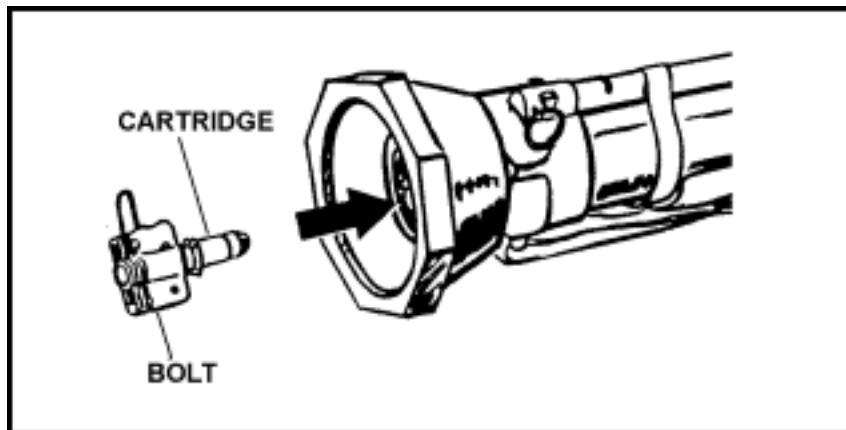
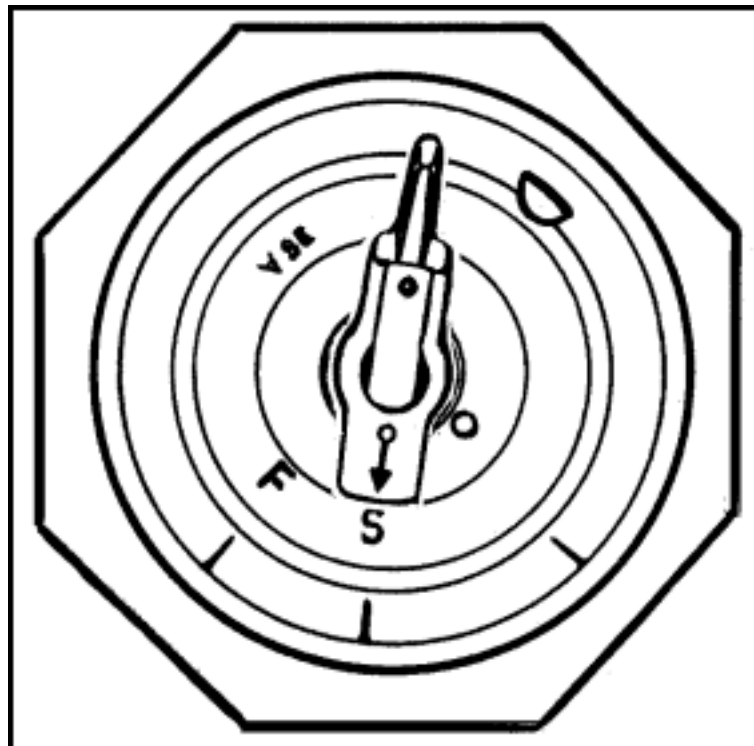
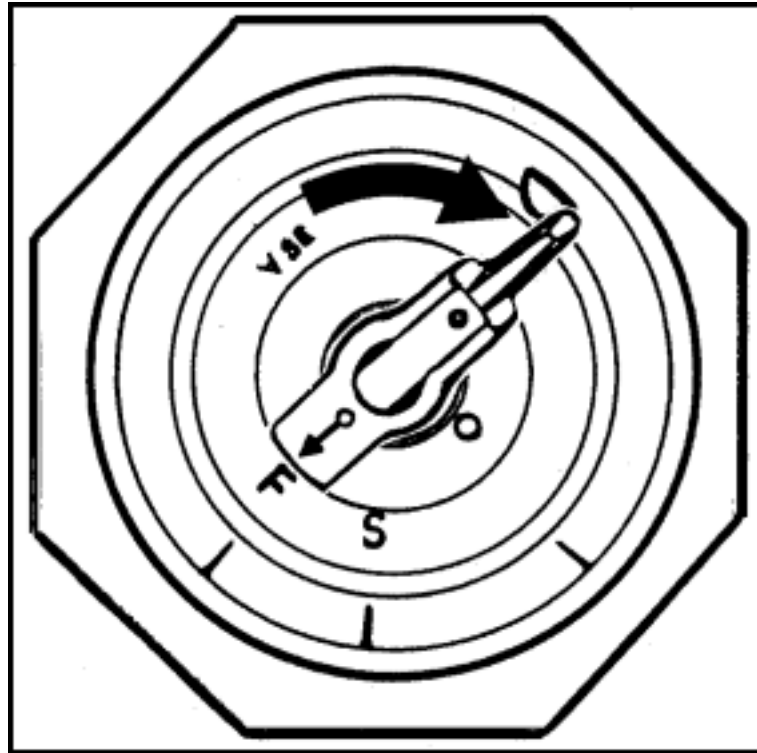

Figure B-9. Inserting bolt with cartridge into the breech of the M287 tracer trainer.
Figure B-10. Ensuring tracer trainer bolt is in the safe position.
Figure B-11. Arming the tracer trainer.
(1) The firer performs the function check and places the M287 tracer trainer on his shoulder.
(2) The trainer looks through the barrel from the rear to verify that it contains no obstructions. He inspects the cartridge primer to ensure it is not dented, inserts the bolt into the breech (Figure B-9), and presses in and turns the bolt clockwise to the "S" to place it in the safe position (Figure B-10). Then he arms the tracer trainer by turning the bolt clockwise to "F" so that it can be fired (Figure B-11).
(3) With the launcher still on his shoulder, the firer cocks the launcher by placing the cocking lever in the cocked position.